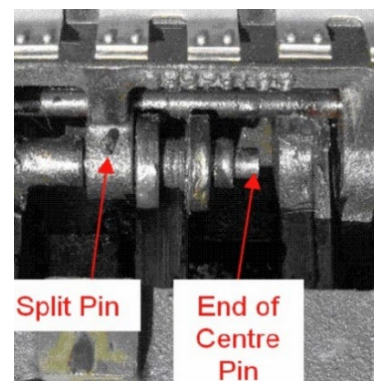

Figure 19 – Centre Pin
- 16.5 Check the split pin has not broken and centre pin has not moved, see Figure 19.